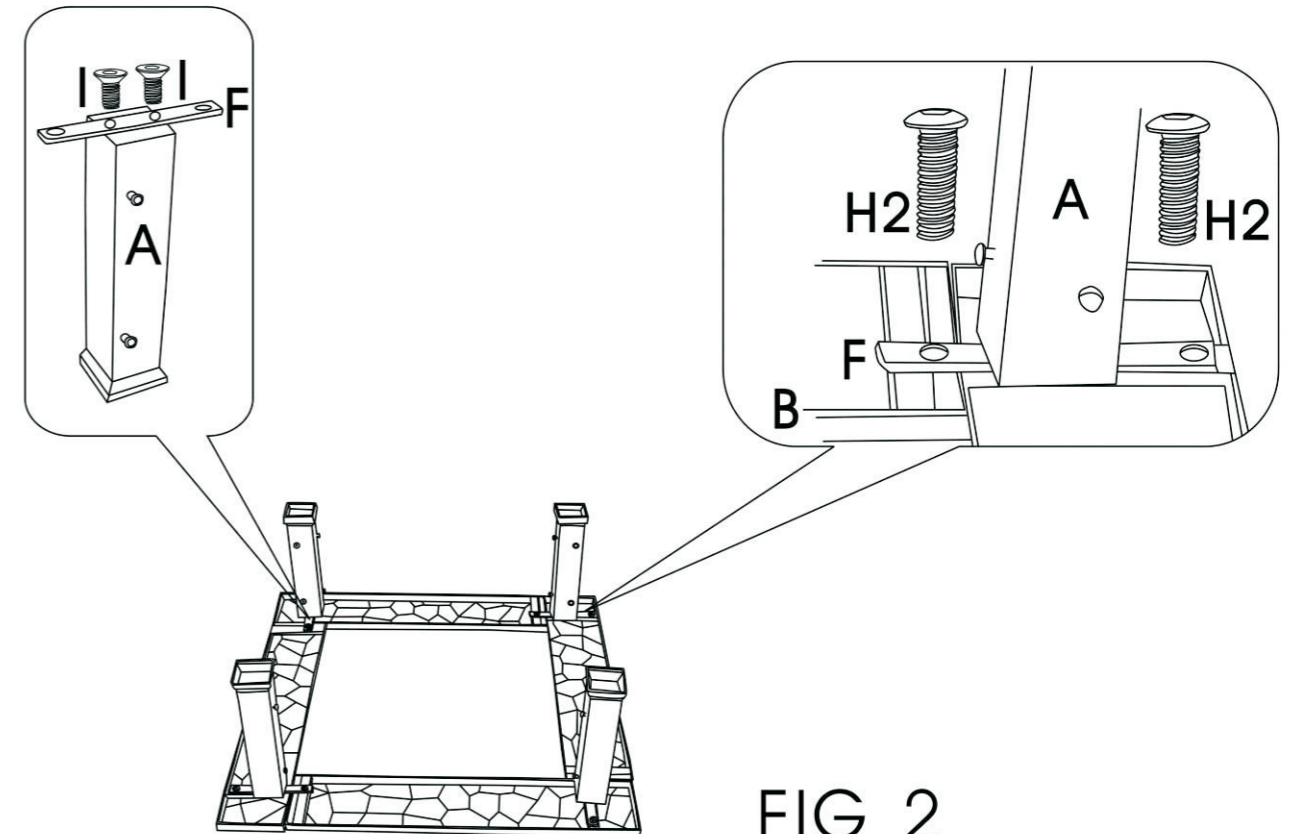

FIG 2
Step 2 Attach Connecting Plates (F) to Corner Posts (A) by using Bolts (I). Tighten the Bolts (I) with an Allen Wrench (M) (provided). Then attach the Corner Posts (A) installed Connecting Plates (F) to the Mantles (B) by using Bolts (H2). (View Fig 2)